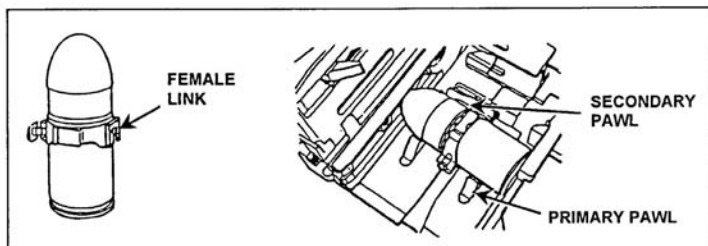

Figure 071-030-0005-1. Insertion of first round through feed throat
- a. Open the top cover and insert the first round through the feed throat into the feeder, link opening first (figure 071-030-0005-1).
- b. Push or slide the round across the first set of feeder pawls, making sure the round is straight and firmly seated against the bolt (figure 071-030-0005-2).